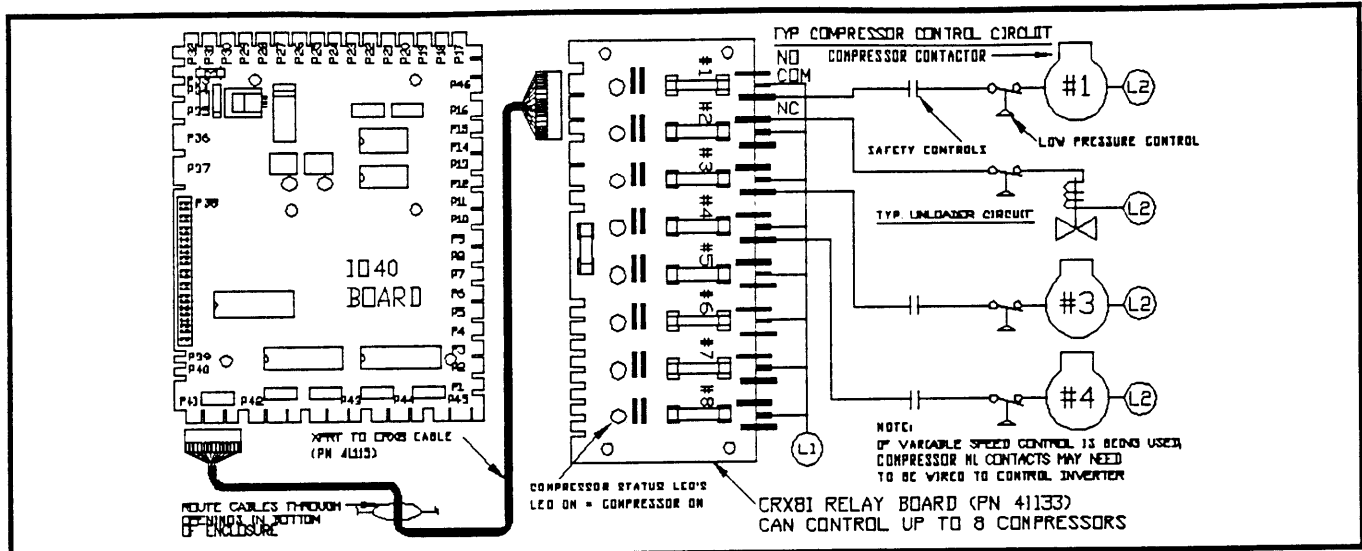
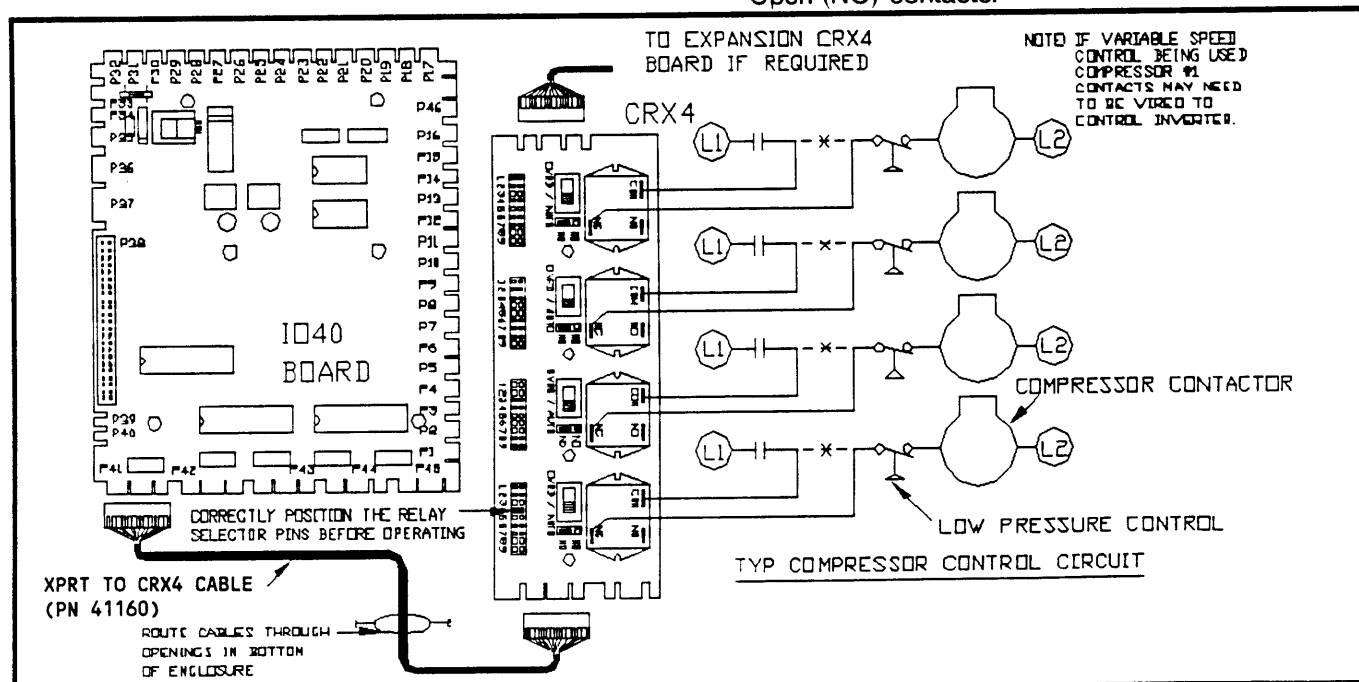

Figure C-9: Compressor Wiring using CRX8i
Figure C-10: Compressor Wiring using CRX4
The compressors are controlled by using one of the CRX relay boards (CRX1, CRX4, CRX8i or CRX8). A typical method for wiring the compressors with a CRX8i is shown in Figure C-9. The CRX8 could also be used if the common connector were routed to L1. A typical method for wiring the CRX4 is shown in Figure C-10. If the XPRT4 is being installed on an existing refrigeration rack, Altech recommends removing the low pressure controls from the control circuit or setting the Cutout at 0 psi level. Either action should preclude the old controls from interfering with normal XPRT4-TD12 operation.
- The wiring diagrams (Figures C-9 and C-10) assume that the compressor will be configured for NC contacts in the Configuration Screens.
- A typical method for wiring an unloader is shown in Figure C-9. Note that it uses the Normally Open (NO) contacts.